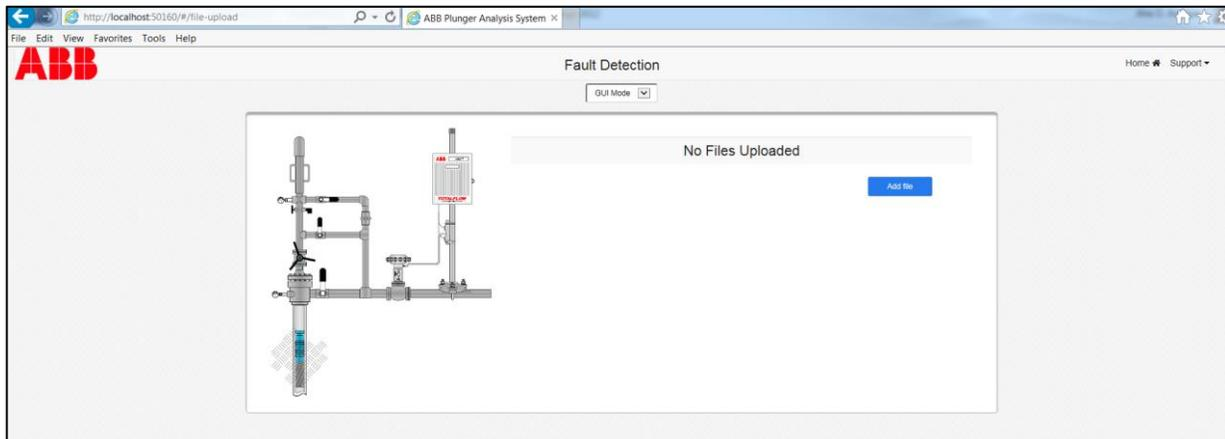

Figure 43: Fault Detection file upload screen
- 2) Verify the Fault Detection file upload screen displays (Figure 43).